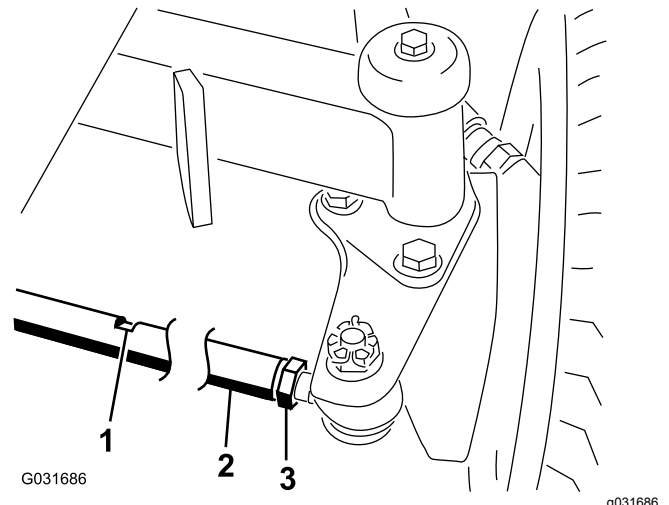

Figure 48
2. Loosen the jam nut on each end of the tie rod (Figure 48).